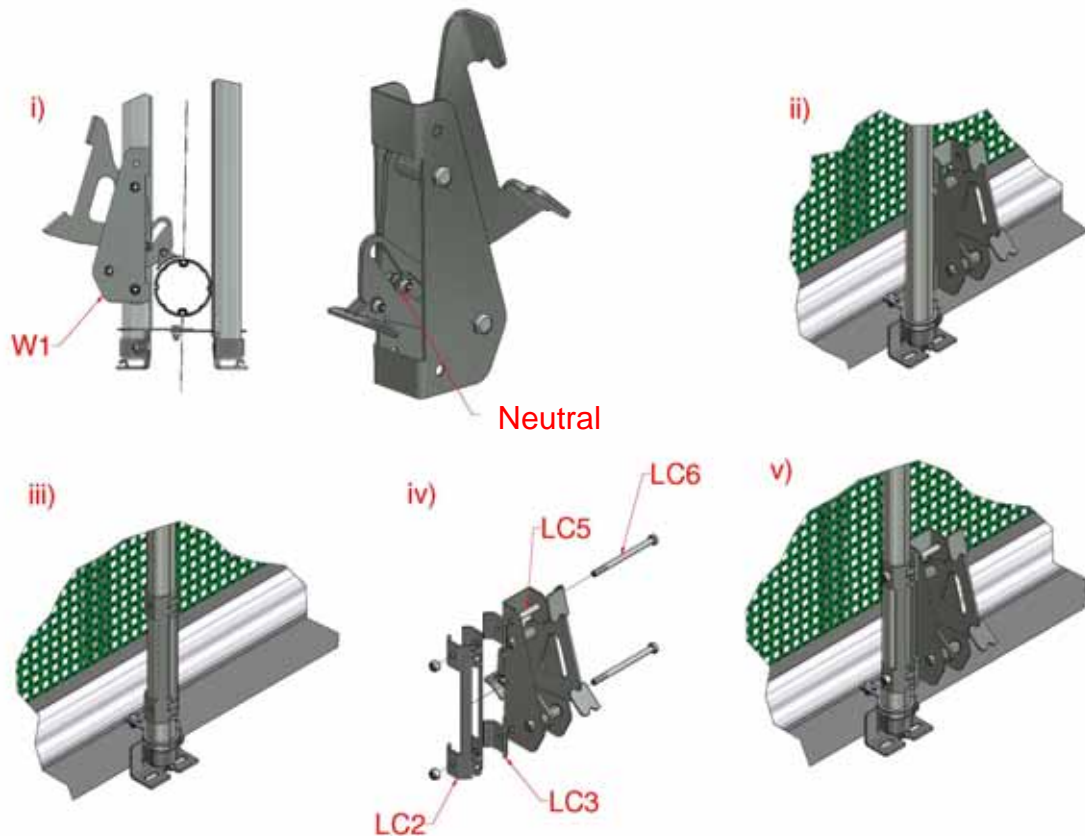

Figure 22, Intermediate Locking Catches
- a) With the Catch in the neutral position, Figure 22(i) (i.e the roller in the middle stop on the track) hold the catch against the outer Control Tube with the shoe resting on the Bottom Rolling Tube and mark the mounting hole positions on the tube, Figure 22(ii).
- b) Place the two Clamp Plates around the Control Tube with the interlocking fingers locating in the outer flute of the tube, Figure 22(iii). Align the mounting holes with the marks made in 5(a) above
- c) Attach the Catch to the tube with the M10x140mm long bolts, placing Spacer Tubes inside the catch and Spacer Plates between the Catch and the Clamp Plates, Figure 22(iv).